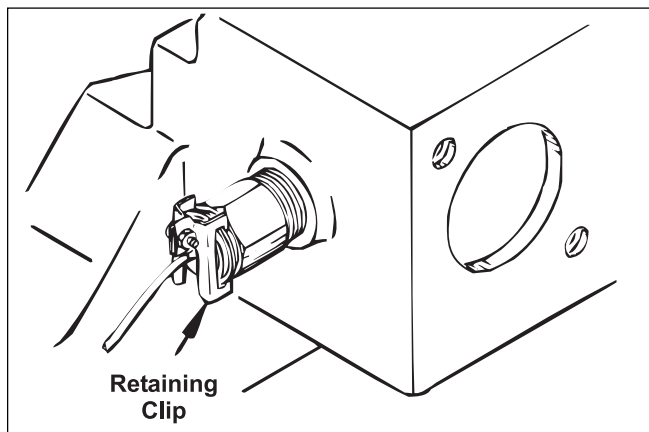

Figure 18. Retaining clip removal.
- b. Loosen the screw on the capillary tube retaining clip, then gently pry the clip apart until it comes free from the temperature control (see Figure 18).